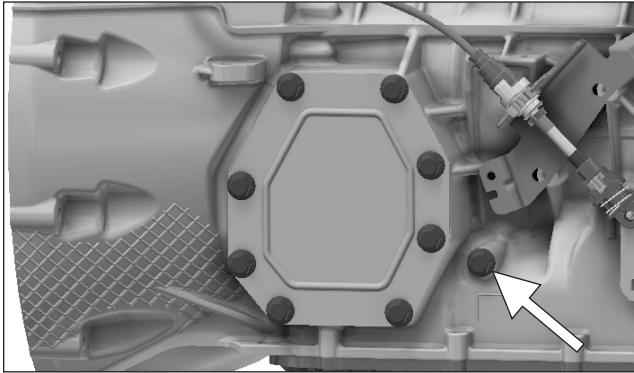
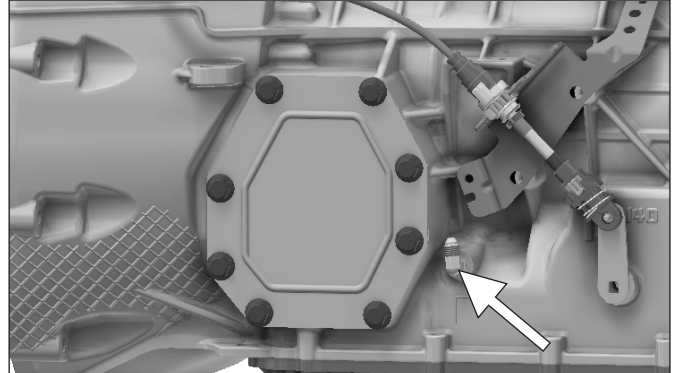

Figure 30
Figure 31
3. Remove the plug from the transmission pressure port (**Fig. 30**) and install fitting 380750 in the opening (**Fig. 32**). Torque to 10-12 lb-ft [13-16 N-m]. See (**Fig. 31**) for recommended fitting orientation.